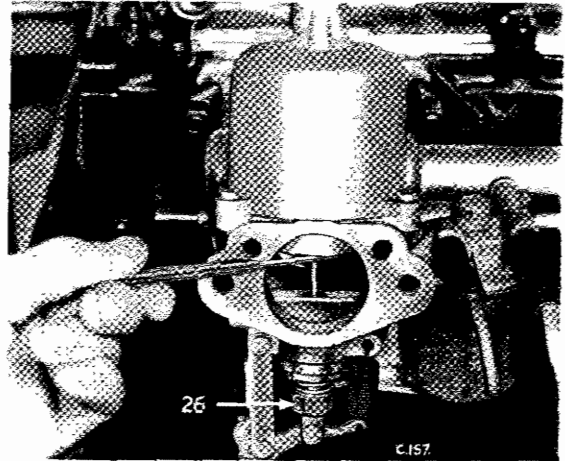

Fig. 8. Checking jet setting
If the suction piston is lifted by hand and released, it should fall freely and hit the inside "jet bridge" with a soft metallic click when the jet adjusting nut (26) (Fig. 8) is screwed to its topmost position.
1. Warm up the engine, remove air cleaners and disconnect choke cable. Slacken clamping bolts (82) on throttle spindle (81) and detach connecting rod (45). Ensure that the screw (77) is clear of its abutment during subsequent adjustments.
5. Check mixture at each carburettor by lifting the piston approximately $\frac{1}{8}$ " (3 mm.) with a pen-knife blade. If the engine speed increases, the mixture is too rich and the nut (26) (Fig. 8) should be screwed up one flat. If the engine speed decreases unscrew nut (26) one flat.
7. Re-connect the choke controls and reset the screw (77) to give 0.062" (1.6 mm.) clearance between the end of the screw and rocker lever (70).